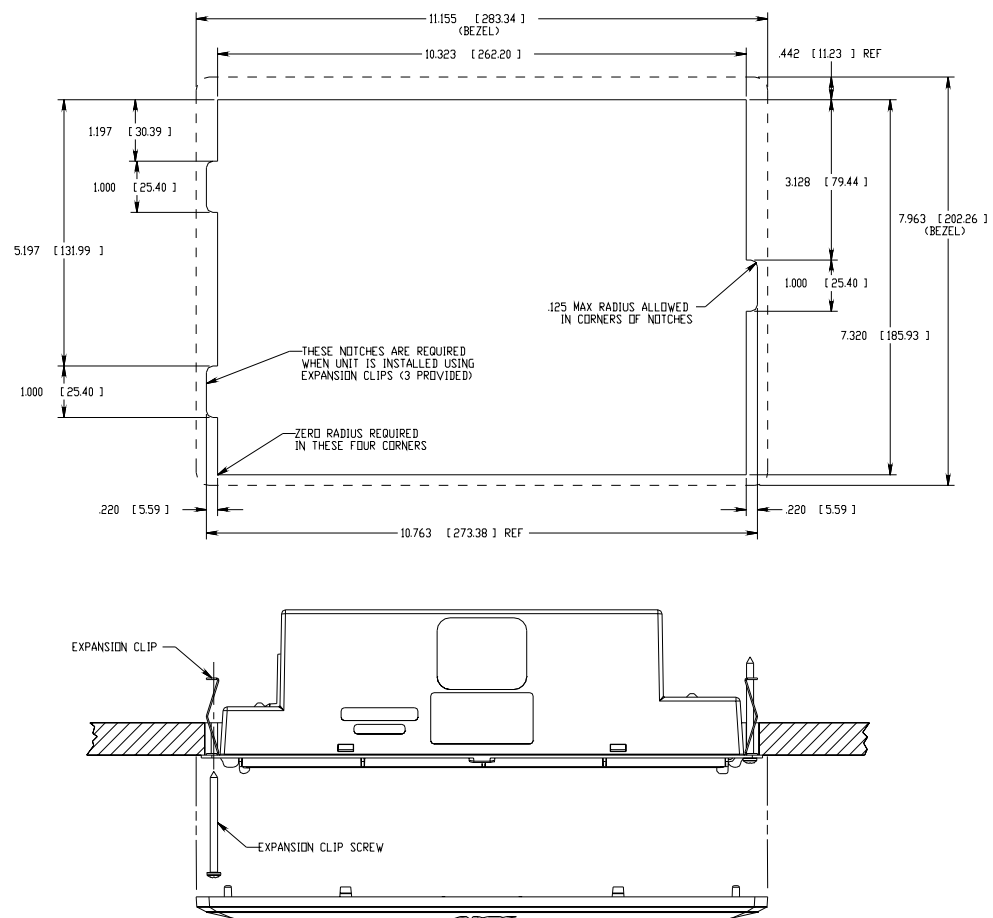

FIG. 22 NXD-1000Vi Wall Mount panel dimensions using expansion clips
- Refer to **SP-2259-03** for detailed installation dimensions (reproduced in FIG. 22).
2. Cut out the drywall surface for the NXD Wall Mount unit using the dimensions shown in FIG. 22. Be sure to cut out the three notches along the sides to accommodate the three corresponding drywall expansion clips (included).